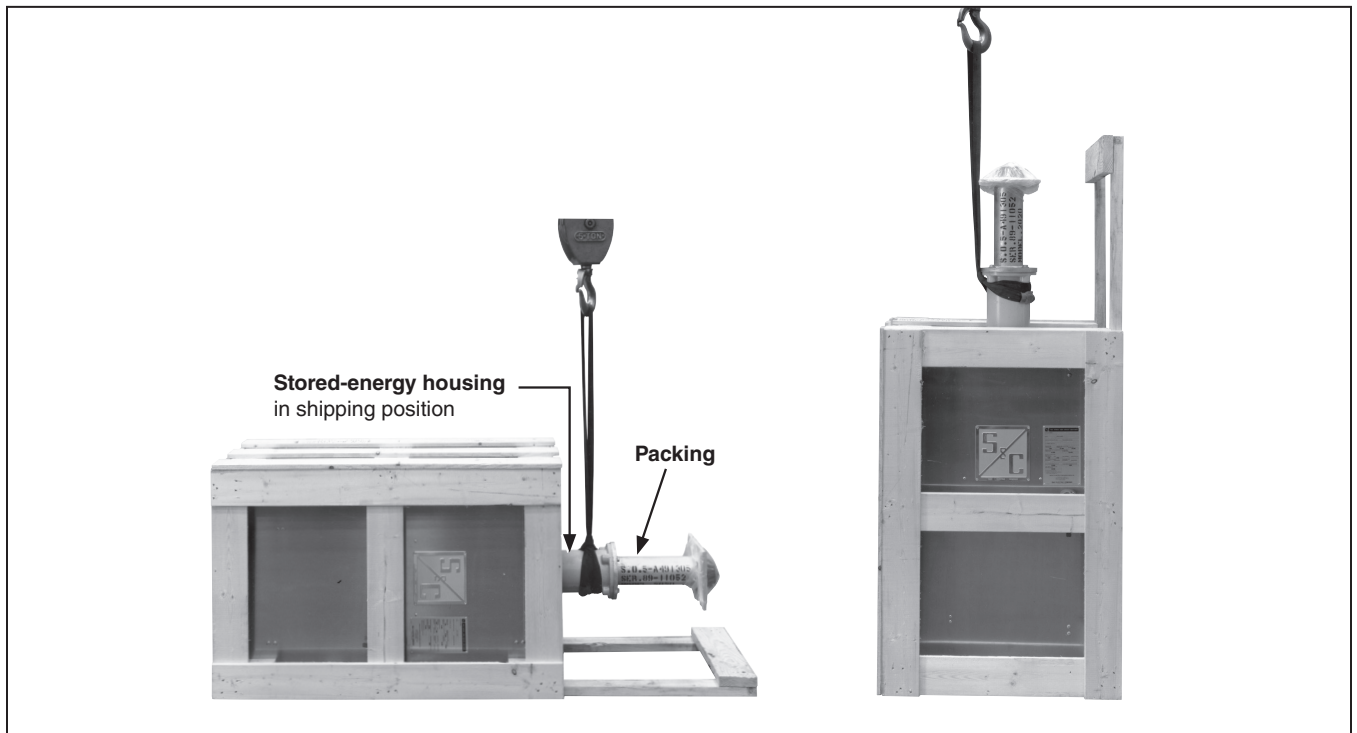

Figure 21. A typical shipment of a Series 2000 operator. Wrap lifting slings around the stored-energy housing to raise the operator to the Upright position.
- STEP 1.** Wrap a lifting sling around the stored-energy housing of the operator, as shown in Figure 21. Carefully raise the operator to the upright position so it rests on its skid.
- STEP 2.** Remove the skid and bracing that runs the length of the operator, stored energy housing, and operator support tube. Also remove the protective cover atop the operator support tube as well as the protective covers on the operator enclosure louvers. See Figure 21 and Figure 22 on page 18.